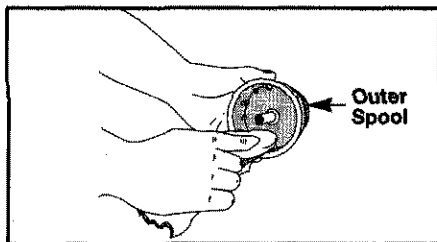

Fig. 14
3. Use a clean cloth to clean the inner surface of the outer spool (Fig. 14).